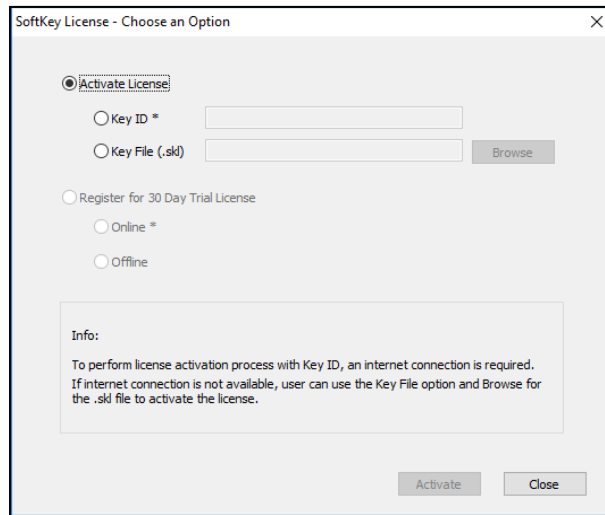

Figure 8. Activate License
2. A warning message to activate the license will be displayed as shown in Figure 8.